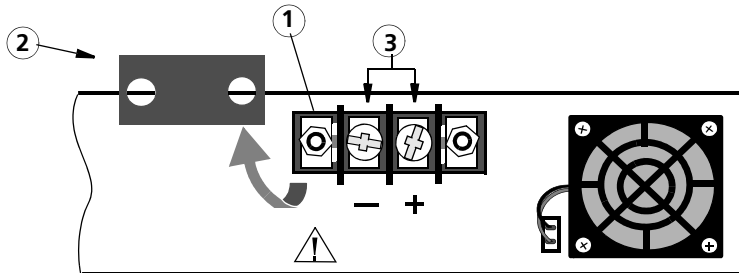

Figure 3-4. DC Power Supply Terminal Block
1. Locate the terminal block assembly (1) on the rear of the unit and remove the clip-on protective cover (2) as shown in Figure 3-4.